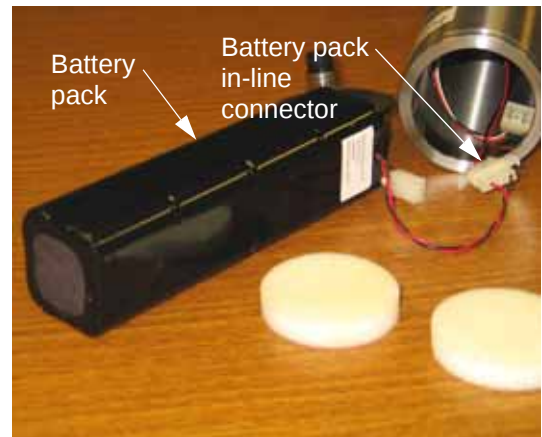
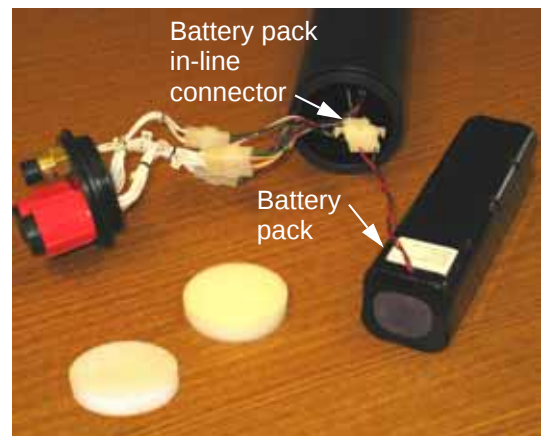

Figure 6-6: Removing the Battery
Figure 6-7: Removing the Battery, with Options Connectors
- 5 Remove the battery pack and another foam pad as shown in Figure 6-6. If the Option 1 and Option 2 connectors are installed, refer instead to Figure 6-7.